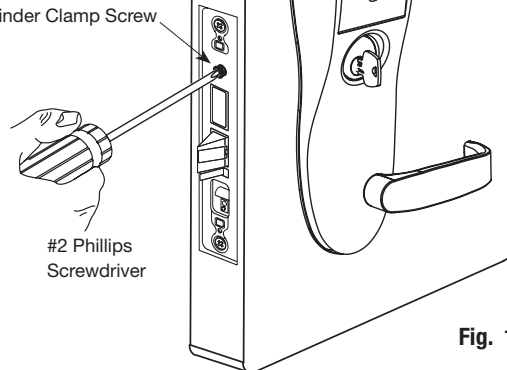

Fig. 12C
2. Secure the cylinder by tightening cylinder clamp screw located above the deadbolt using #2 Phillips screwdriver (Fig. 12C).